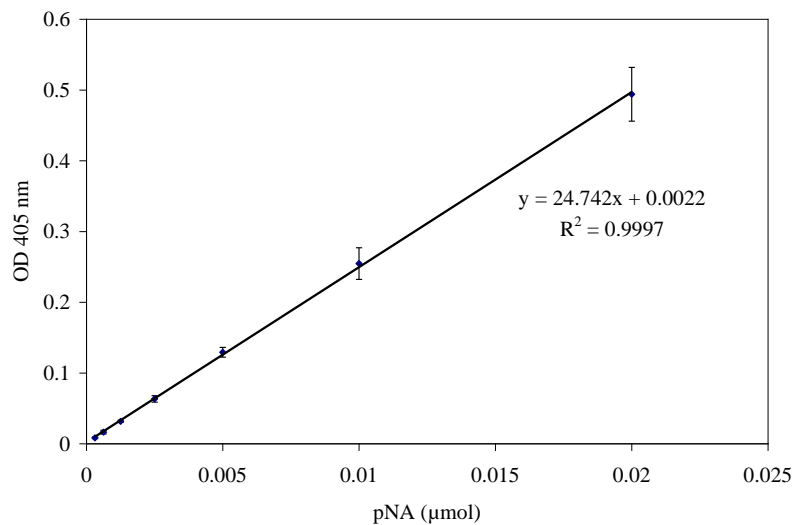

Figure 2. Standard curve of OD405nm vs. pNA in μmol.
- Read samples at 405 nm on a microtiter plate reader. Plot the standard curve of  $\text{OD}_{405\text{nm}}$  vs.  $\mu\text{mol}$  of pNA (e.g. Figure 2). Determine the equation and  $R^2$  value of the trend line.